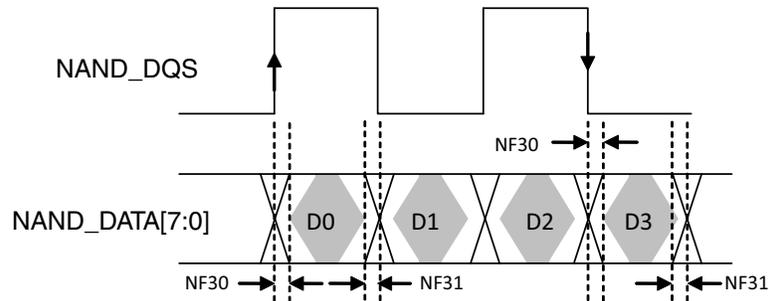

Figure 33. NAND_DQS/NAND_DQ Read Valid Window
For DDR Source sync mode, Figure 33 shows the timing diagram of NAND_DQS/NAND_DATAxx read valid window. The typical value of tDQSS is 0.85ns (max) and 1ns (max) for tQHS at 200MB/s. GPMI will sample NAND_DATA[7:0] at both rising and falling edge of an delayed NAND_DQS signal, which can be provided by an internal DPLL. The delay value can be controlled by GPMI register GPMI_READ_DDR_DLL_CTRL.SLV_DLY_TARGET (see the GPMI chapter of the i.MX 6Solo/6DualLite reference manual). Generally, the typical delay value of this register is equal to 0x7 which means 1/4 clock cycle delay expected. But if the board delay is big enough and cannot be ignored, the delay value should be made larger to compensate the board delay.
- ⁷ Shown in Figure 33, NAND_DQS/NAND_DQ Read Valid Window.
For DDR Toggle mode, Figure 33 shows the timing diagram of NAND_DQS/NAND_DATA_{xx} read valid window. The typical value of tDQSQ is 1.4 ns (max) and 1.4 ns (max) for tQHS at 133 MB/s. GPMI will sample NAND_DATA[7:0] at both rising and falling edge of an delayed NAND_DQS signal, which is provided by an internal DPLL. The delay value of this register can be controlled by GPMI register GPMI_READ_DDR_DLL_CTRL.SLV_DLY_TARGET (see the GPMI chapter of the i.MX 6Solo/6DualLite reference manual). Generally, the typical delay value is equal to 0x7 which means 1/4 clock cycle delay expected. But if the board delay is big enough and cannot be ignored, the delay value should be made larger to compensate the board delay.